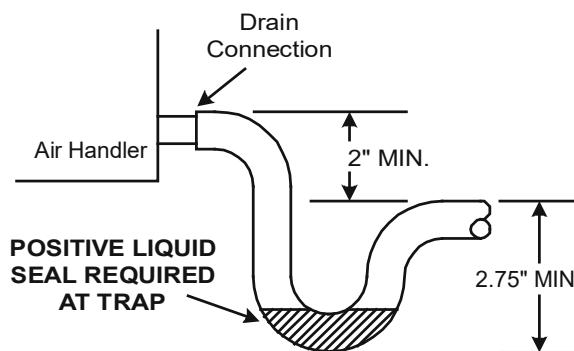

FIGURE 17
**MUST INCLUDE A "P" STYLE TRAP THAT IS LOCATED AS CLOSE AS IS PRACTICAL TO THE EVAPORATOR COIL SEE FIGURE 17 FOR DETAILS OF A TYPICAL CONDENSATE LINE "P" TRAP.**